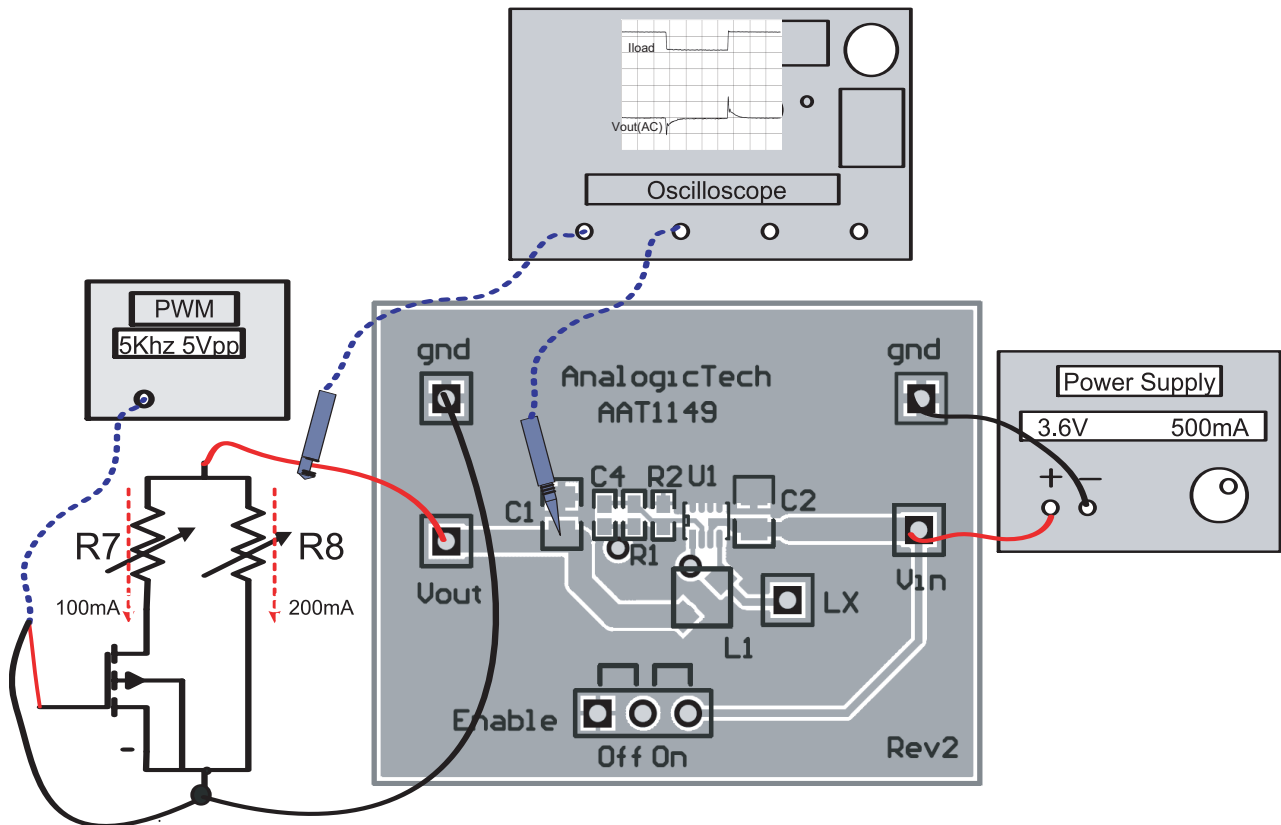

Figure 4: AAT1149 Evaluation Board Connection Diagram for Load Transient Response.
1. Configure the specified test equipment as shown in Figure 4.